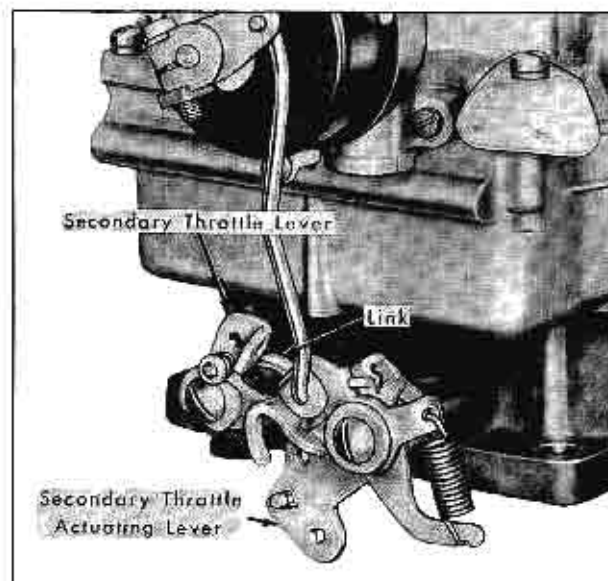

Fig. 12-54 Secondary Throttle Linkage
2. Slide secondary throttle lever with spring onto secondary throttle shaft. Install spacer and retaining screw as shown in Fig. 12-54.